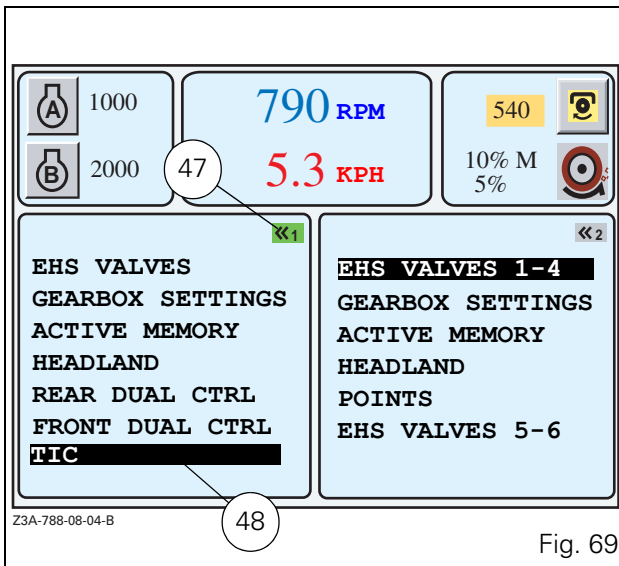

Fig. 69
TIC menu displayed in the left-hand window only (Fig. 69):
- To display this menu, press key «1 twice. The first press selects the window and the second press displays the list if no application was activated previously. The active application is indicated by the green icon at the top right-hand of the window (47 Fig. 69), and on b/w screens the active window is indicated by the same icon in reverse video.
- To select the different menu, select the application using the encoder. The selected application is displayed in a black frame (48 Fig. 69).